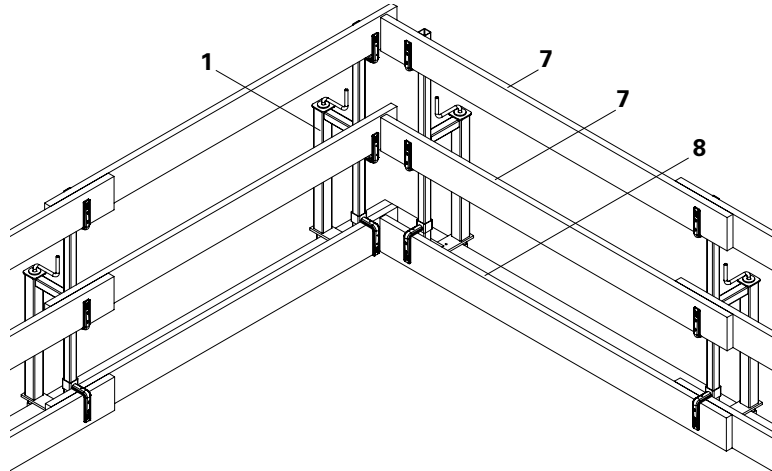

Fig. A3.01
6. Push toe board holder (1.2) upwards and position toe boards (8).
7. Fix with suitable nails or screws to the L-angles (1.5) and toe board holders (1.2). (Fig. A3.01/A3.02)